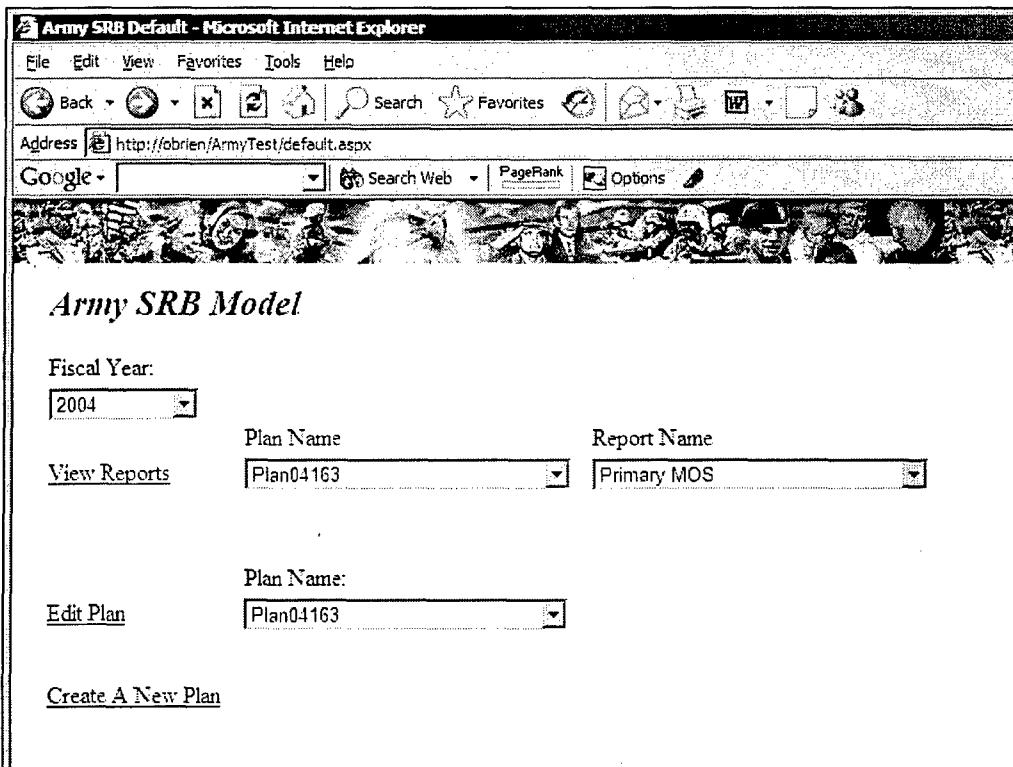

Figure 58. Select Primary MOS Report
- Select an SRB Plan from the Plan Name dropdown box to the right of the View Reports link. Choose the Primary MOS report from the Report Name Dropdown box (see Figure 58).